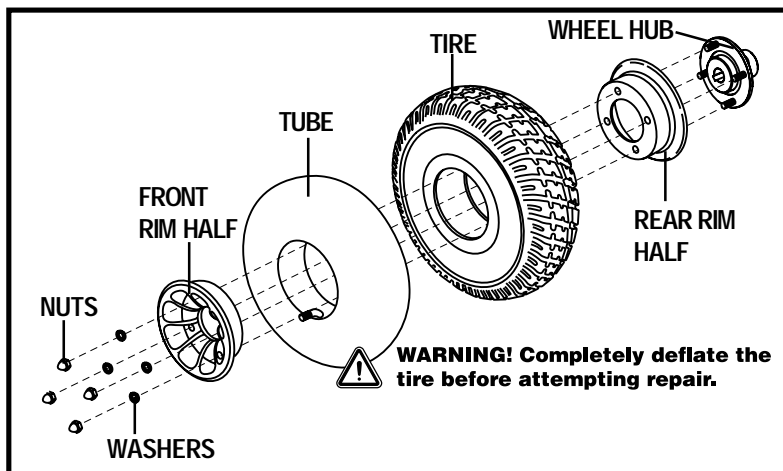

Figure 33. Drive Wheel Disassembled
6. Remove the nuts and washers from the wheel hub and separate the front and rear rim. See figure 33.